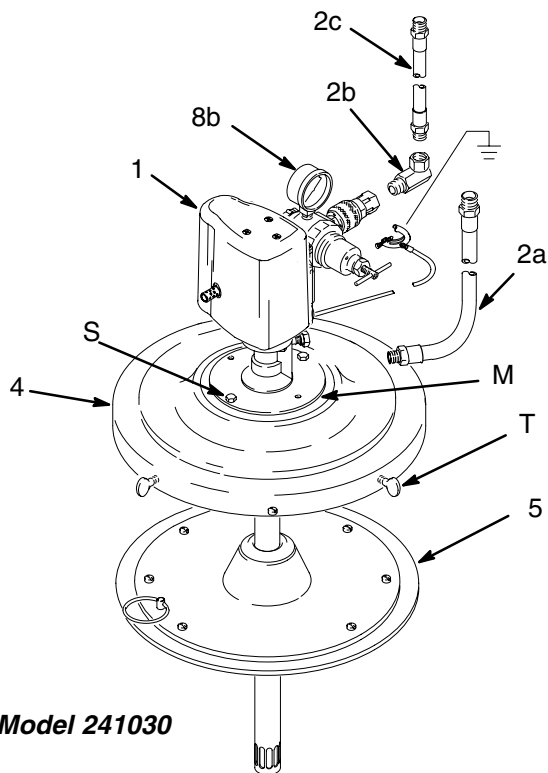

Fig. 3
2. See Fig. 3 or 4. Place the follow plate (5) on the surface of the grease (See page 8).
3. Place the cover (4) on the drum. *On Model 236049 only*, secure the cover with the three thumbscrews (T).
4. Insert the pump (1) through the cover (4) and follow plate (5). Lower the pump until it rests on the cover, and secure with the screws (S), using the proper hole pattern in the pump mounting plate (M).